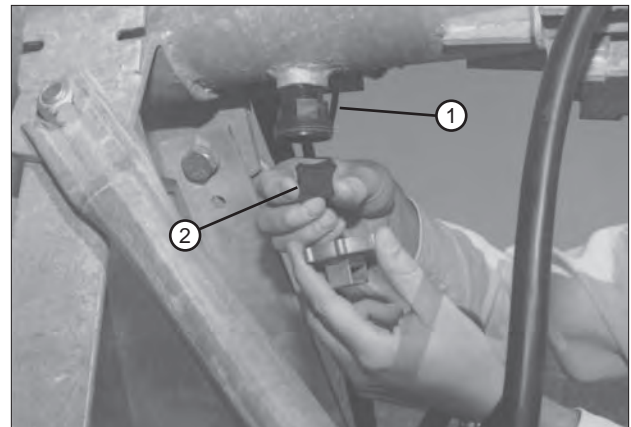

Figure 35-1
2. Remove the pipe drains at each tower and clean sand and foreign particles from these drains. Turn the rubber drain seal over when reinstalling. See figure 35-1.